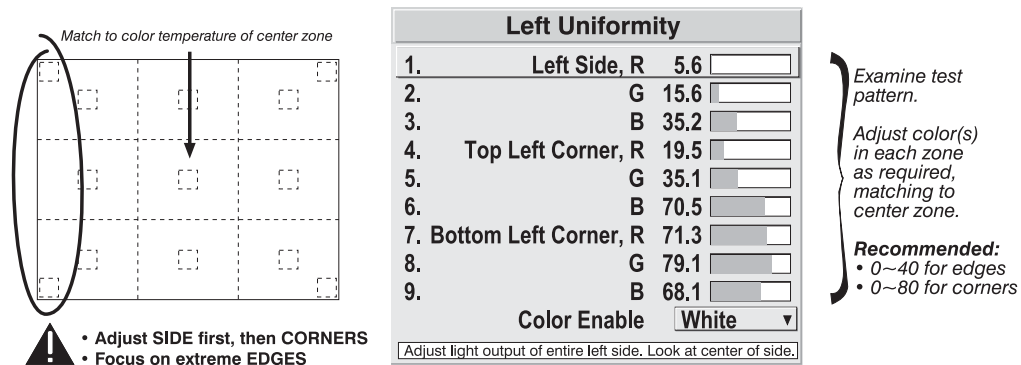

Figure 3.26. Match Zones to Center Color Temperature
- 2b) Return to the *Brightness Uniformity* menu. Beginning with the screen that exhibits the most obvious color shift(s), for each edge that exhibits a noticeably different color temperature from the center, select the corresponding *Uniformity* adjustment menu—*Left, Right, Top* or *Bottom*. For example, if any part of the left side is too blue, too red or too green, go to the *Left Uniformity* menu and adjust the colors (i.e., change their light output) until all portions of the left side closely match the center color temperature. Adjust an edge first (focusing on its center), then adjust its corners. See Figure 3.26.